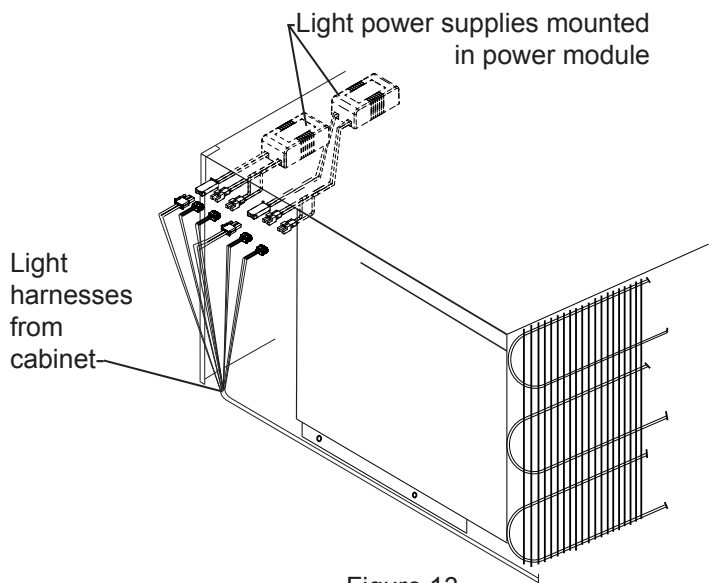

Figure 13
Plug in the (6) electrical connectors for the lights coming from the cabinet into the (2) power supplies which are attached to the power module, see Figure 13.